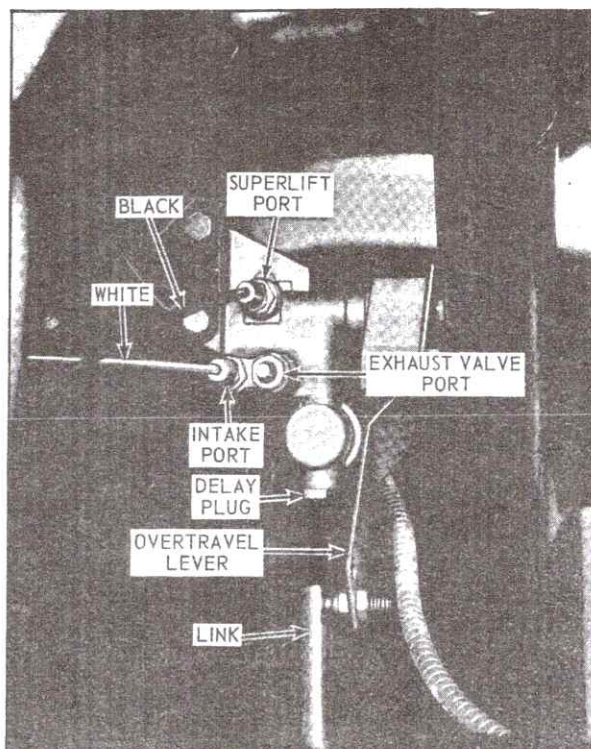

Fig. 4-19 Height Control Valve
2. Disconnect intake and superlift air lines from fittings on control valve, Fig. 4-19.
3. Connect air lines at control valve intake and superlift fittings, Fig. 4-19, as described in Note 9.